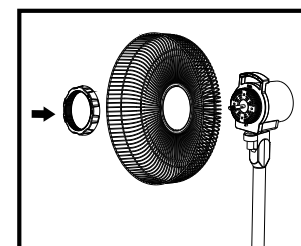

Figure 4
2. Put the rear guard into the rear cover of the motor, and turn it anti-clockwise (see Figure 4).